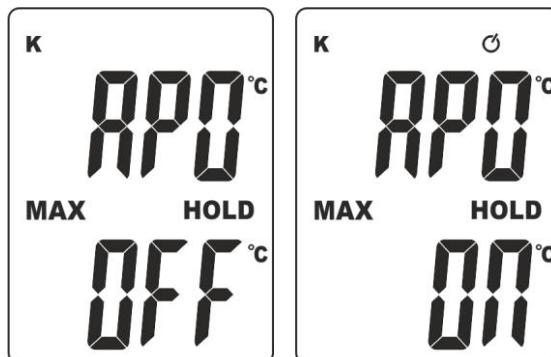

Fig. 4: Disable/enable Auto Power OFF
2. Pushing the **ON/OFF** key long (>1s) the "APO OFF" message is displayed for a while (see Fig. 4 – left part) and the "○" symbol disappears.
3. Repeat the same operation as per point 1 and 2 to activate again the function with "APO ON" message displayed (see Fig. 4 – right part), the feature is automatically restored after each shutdown anyway.